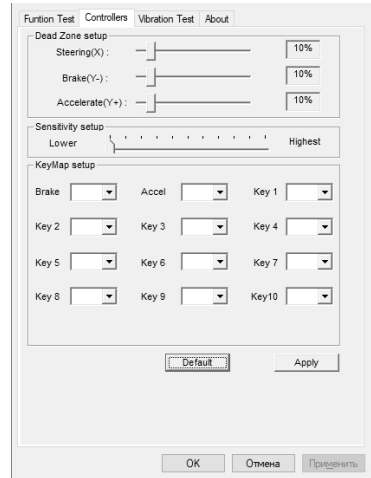

Fig. 8
- Choose «Controllers» to set axes and keys (see Fig. 8). Setting of axes and keys (not compatible with OS Vista 64)
- Dead Zone setup: controller will not respond to a slight touch of acceleration pedal (Accelerate Y+), or brake pedal (Brake Y-), or turns of the wheel (Steering X), therefore necessary adjustments should be made by cursors (Fig. 8);
- Sensitivity setup: the higher sensitivity is, the swifter and more efficient response of controller to pressing of pedals and turns of the wheel will be, therefore necessary adjustments within Lower to Higher range should be made by cursors (Fig. 8);
- KeyMap Setup reprograms functional keys: there should be chosen new necessary assignment against the key designation (Fig. 8);